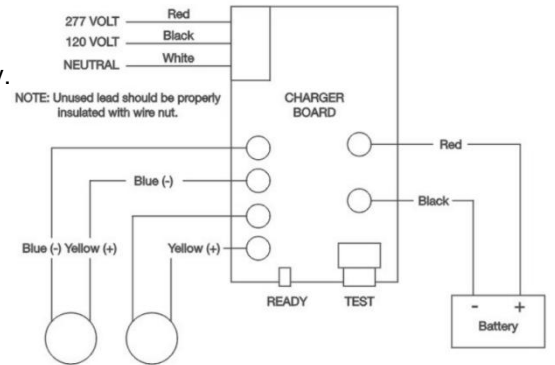

Fig1
### WIRING DIAGRAM(see Fig 1)
5. Apply continuous AC power refer to Fig 1. Press "TEST" button to check for proper operation of the unit.